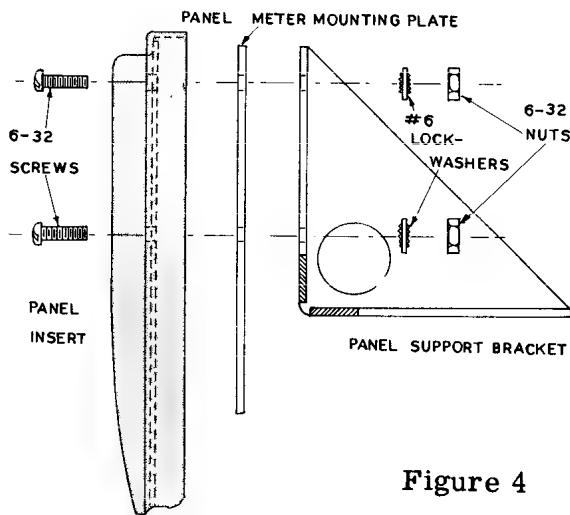

Figure 4
- () Referring to Figure 4, place the meter into the panel insert. Line up the four holes in the meter mounting plate with the corresponding holes in the panel and panel insert. Viewing the meter from the front of the panel will indicate the proper position. Now tighten the nuts on the meter studs to a "snug" fit. Drawing these nuts down too tightly may cause cracking of the plastic meter case. Now remove the meter and mounting plate assembly.